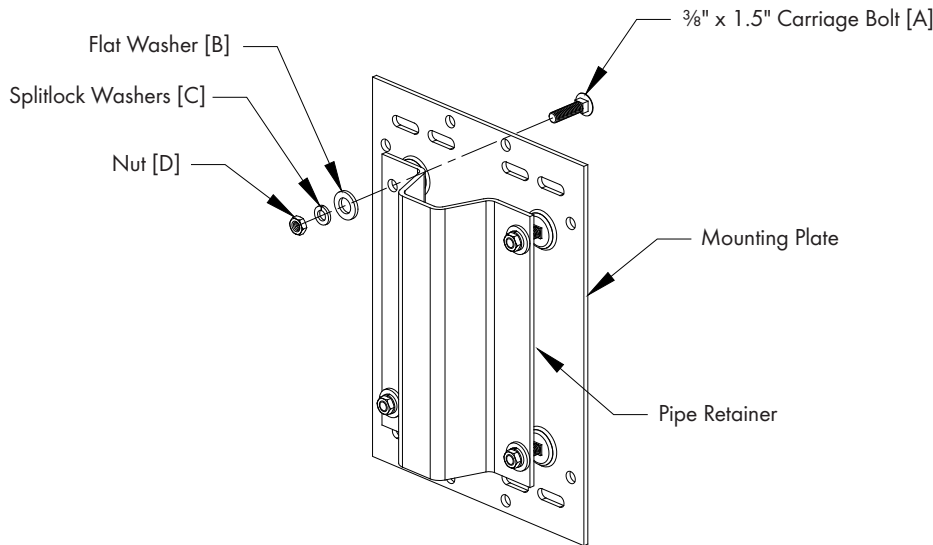

Figure 3
Attach pipe retainer to mounting plate using (4) Bolts [A], Washer [B], Splitlock Washer [C] and Nuts [D]. Thread nut on so it is flush with end of bolt. *See Figure 3.*